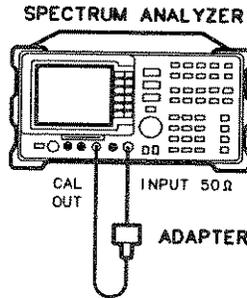

Figure 4-27. Fast Sweep Time Amplitude Test Setup
1. Connect the equipment as shown in Figure 4-27. *Option 026:* Use the APC to Type N adapter with the Type N to BNC adapter.